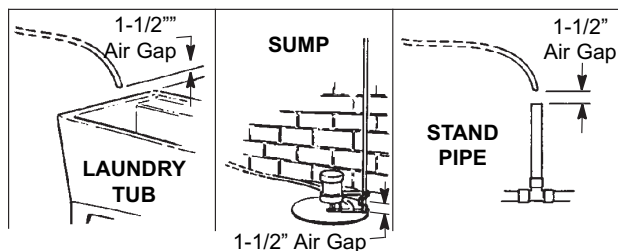

FIG. 7
- a. Take a length of 5/8" inside diameter garden hose and attach to the valve drain fitting (See Figure 7 on page 6).
- b. Locate the other end of the hose at a suitable drain point (floor drain, sump, laundry tub, etc.). Check and comply with local codes. Refer to Figure 7 on page 6 if codes require a rigid pipe drain run.
- b. Place bypass valve(s) into "bypass" position. On a single valve, slide the stem inward to BYPASS (See Fig. 7 on page 6). On a 3 valve system, close the inlet and outlet valves, and open the bypass valve (See Fig. 6 on page 6).